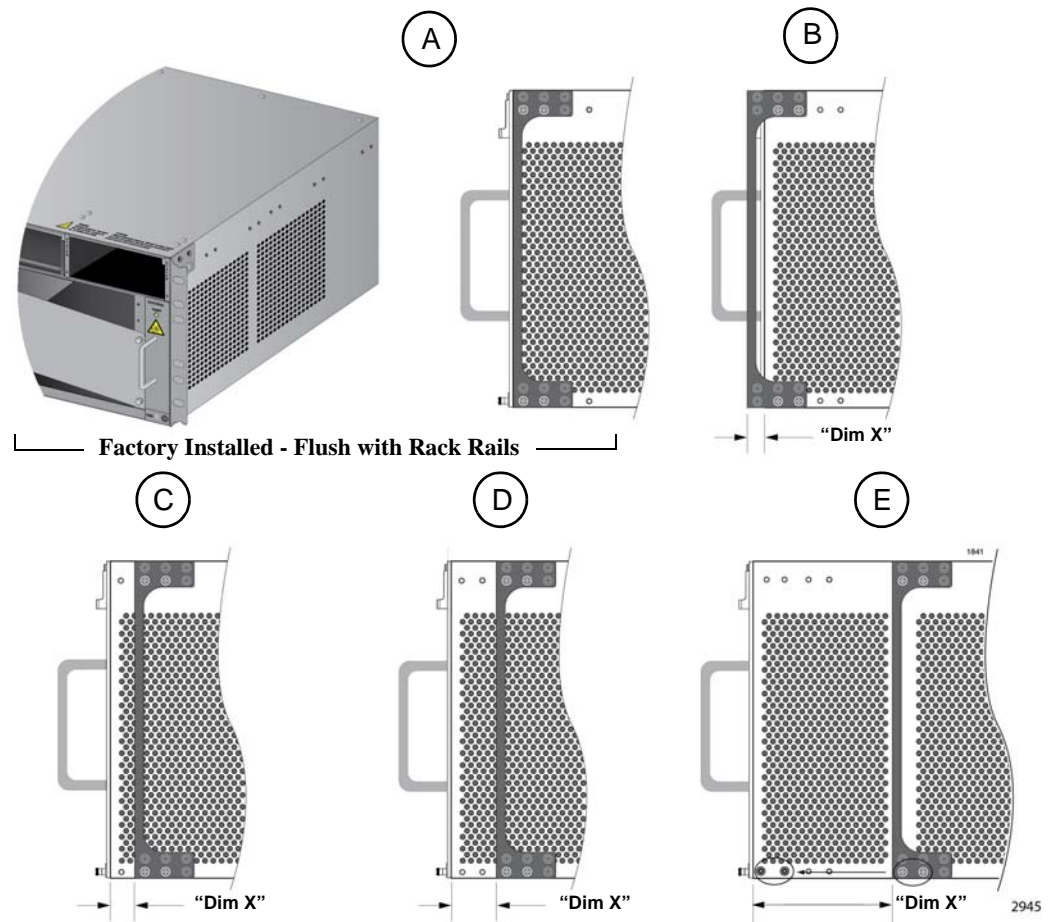
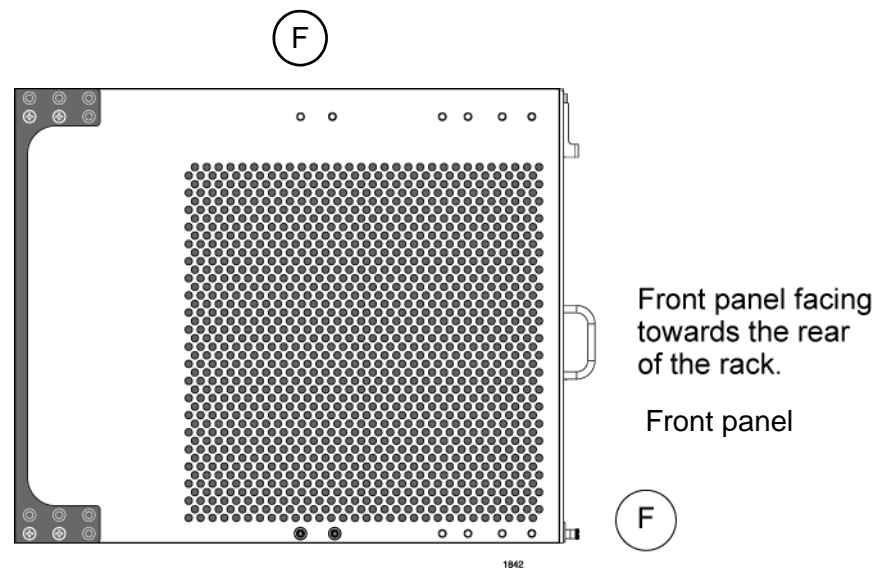

Figure 38. Rack Mounting Bracket Locations
Figure 39. Rack Bracket Locations for Reverse Position of Chassis
You adjust the brackets by removing them and re-installing them in different positions on the sides of the chassis. The bracket positions are listed in Table 27 and illustrated in Figure 38 on page 103 and Figure 39 on page 103. Please review the following information before moving the brackets:
- ☐ To install the rack mount brackets in position “E,” you have to remove the two chassis screws from the bottom-middle section of the chassis and re-install them in front where the rack mount bracket screws were originally, as shown in Figure 38 on page 103.
- ☐ The dimension (X) between the front panel and the rack rails is given for each rack mounting bracket position in Table 27.